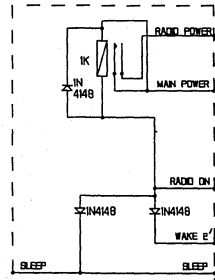

Fig.18 RADIO POWER SWITCHED BY RELAY
- Option 3 (Fig.18) Power supply switching using a relay